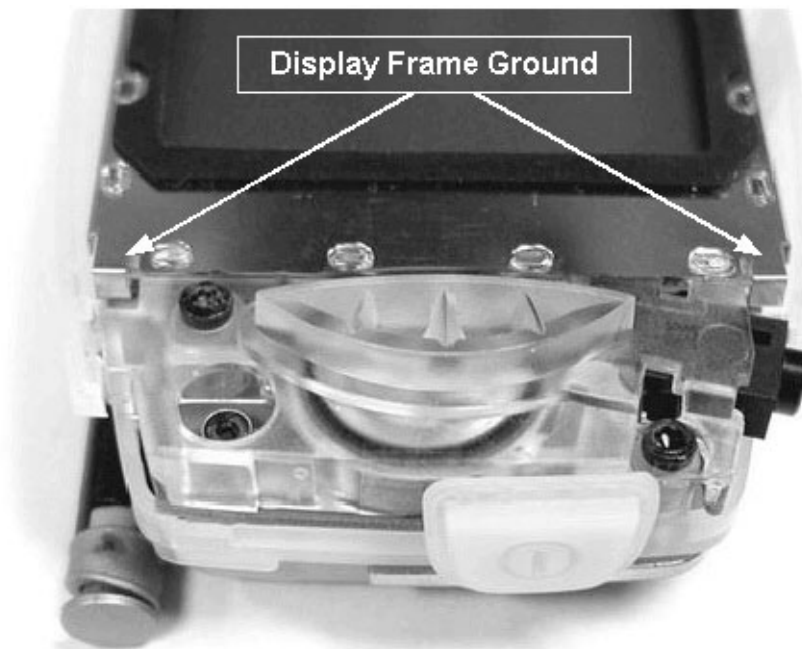

Figure 6: Display frame grounded by two spring clips
The display frame is normally grounded by two spring clips (Figure 6). The figure shows the display frame grounding locations. If clips are missing or bent, replace display module (UI) with a good one.